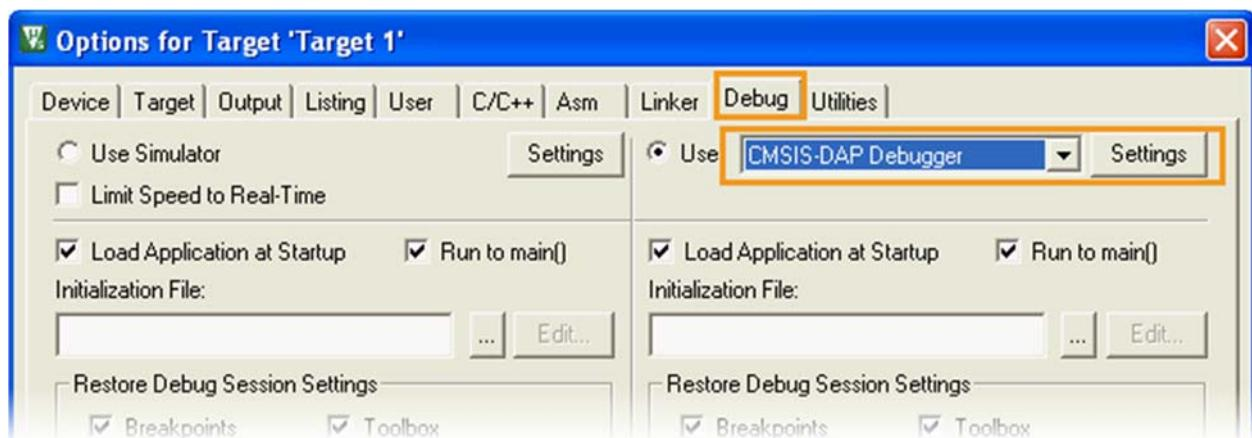

Figure 49. Configure the debug settings
- 6) Navigate to **Debug** tab in the **Options for Target** to select the **CMSIS-DAP Debugger**, as shown in Figure 49.